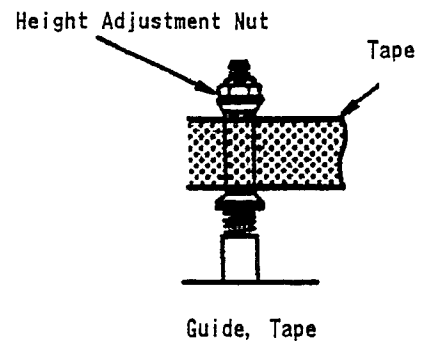

Fig. 5-6
8. After completion of the supply side guide roller adjustments, adjust tape guide so that tape runs as shown in Fig. 5-6, and adjust the take-up side guide roller by using the same procedures as for the supply side adjustments. In this case, adjust the guide roller height first.
9. Confirm that there is no curling or creasing at the impedance roller. (Both PLAY and REV modes.) If there is any curling or creasing at the impedance roller, adjust the same procedures of Fig. 5-6.